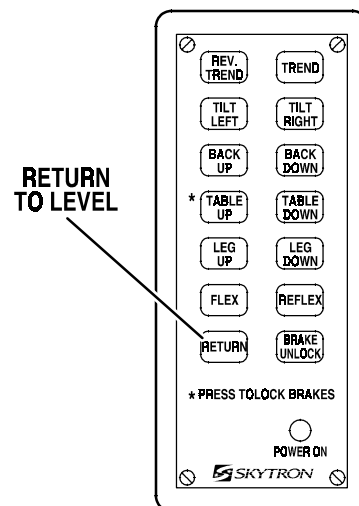

Figure 3-11. Return To Level
i. Return To Level (6001KR & 6001KRB only). To return the table top to a level position, press the RETURN button (figure 3-11).